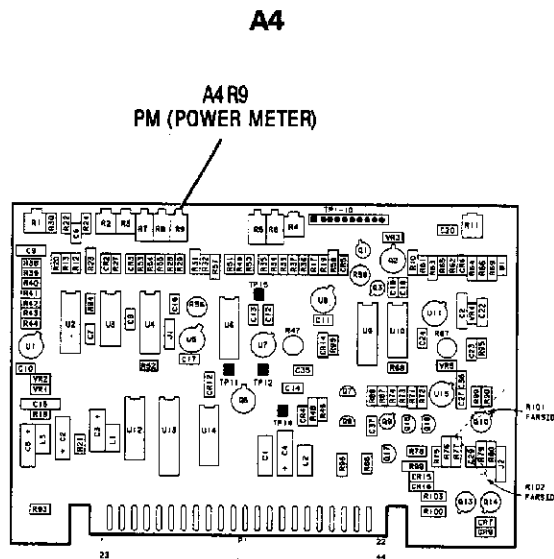

Figure 5-40. Power Meter Leveling Adjustment Location
4. Increase the Model 83592C power level until the HP 432A Power Meter reaches full scale deflection (Model 83592C RF output equals approximately $+4$ dBm). Adjust A4R9 (PM) until the HP 436A Power Meter indication is equal to the Model 83592C POWER display minus the Power Splitter insertion loss noted in step 2 (approximately 6 dB). Refer to Figure 5-40 for the adjustment location.
5. Alternately set the Model 83592C POWER to -2 dBm (and adjust the Model 83592C [EXT CAL] control) then set the 83595A POWER to $+6$ dBm (and adjust A4R9(PM) control) to obtain the best compromise where further adjustment of each is unnecessary.